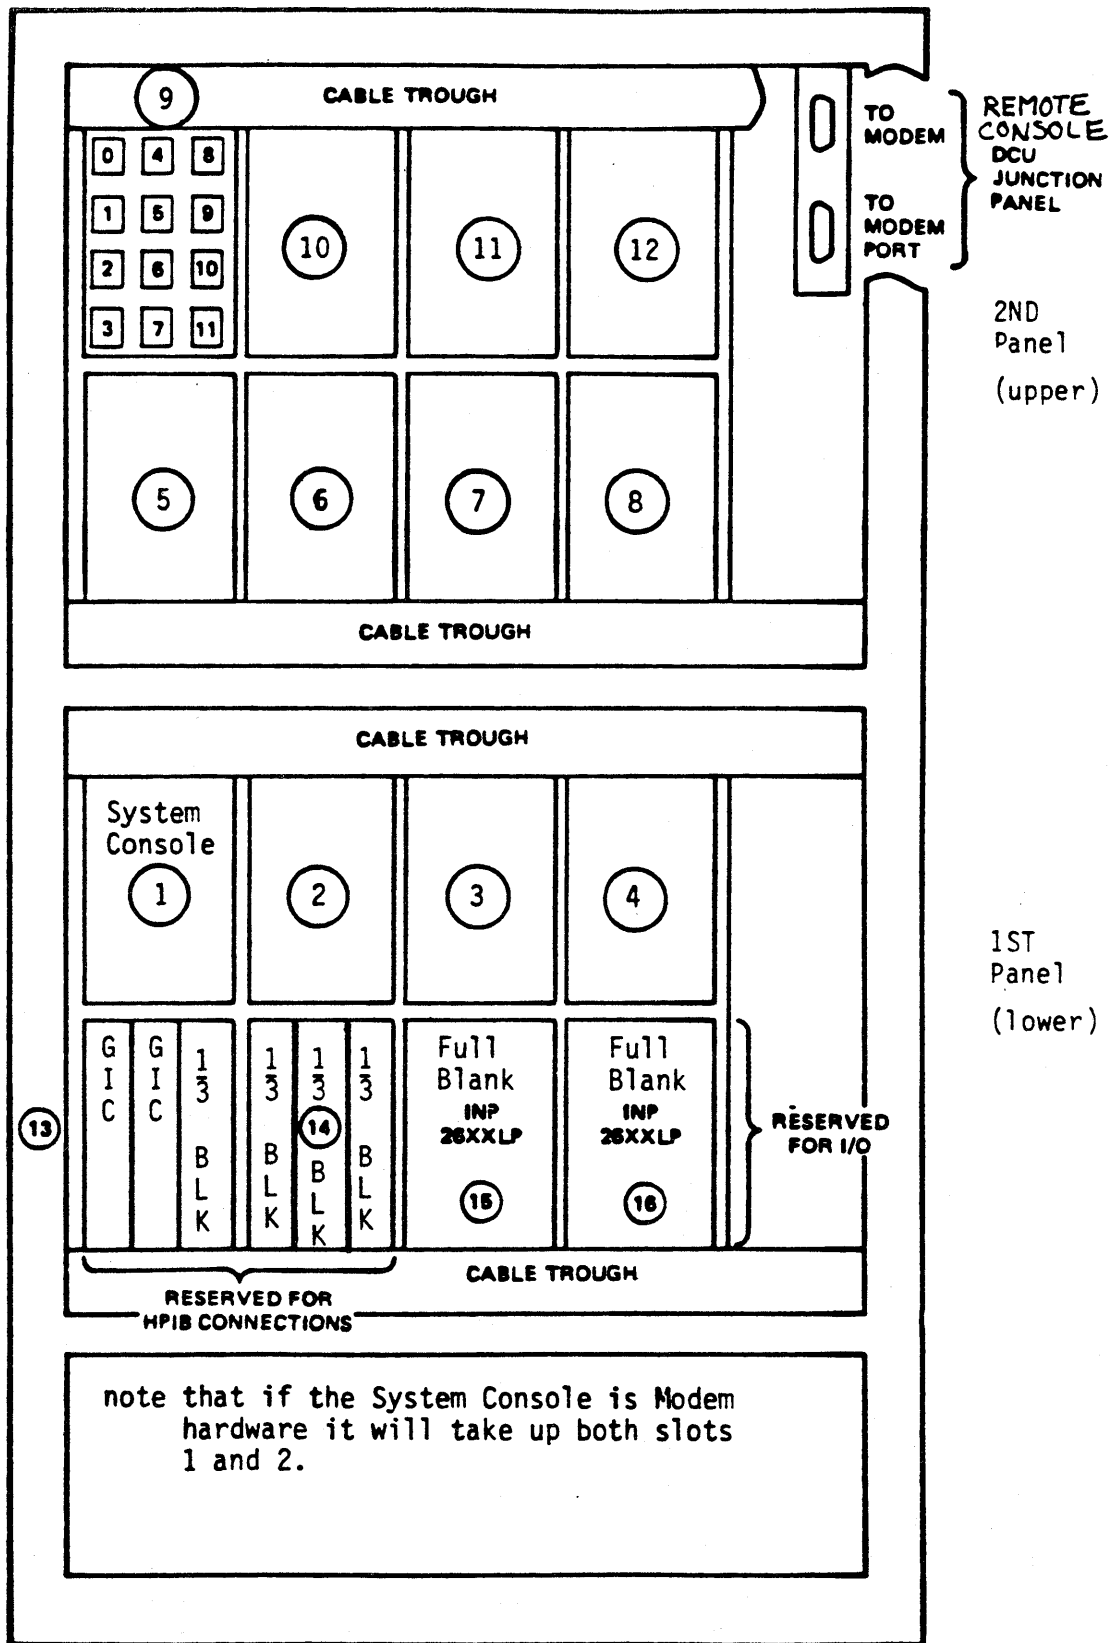
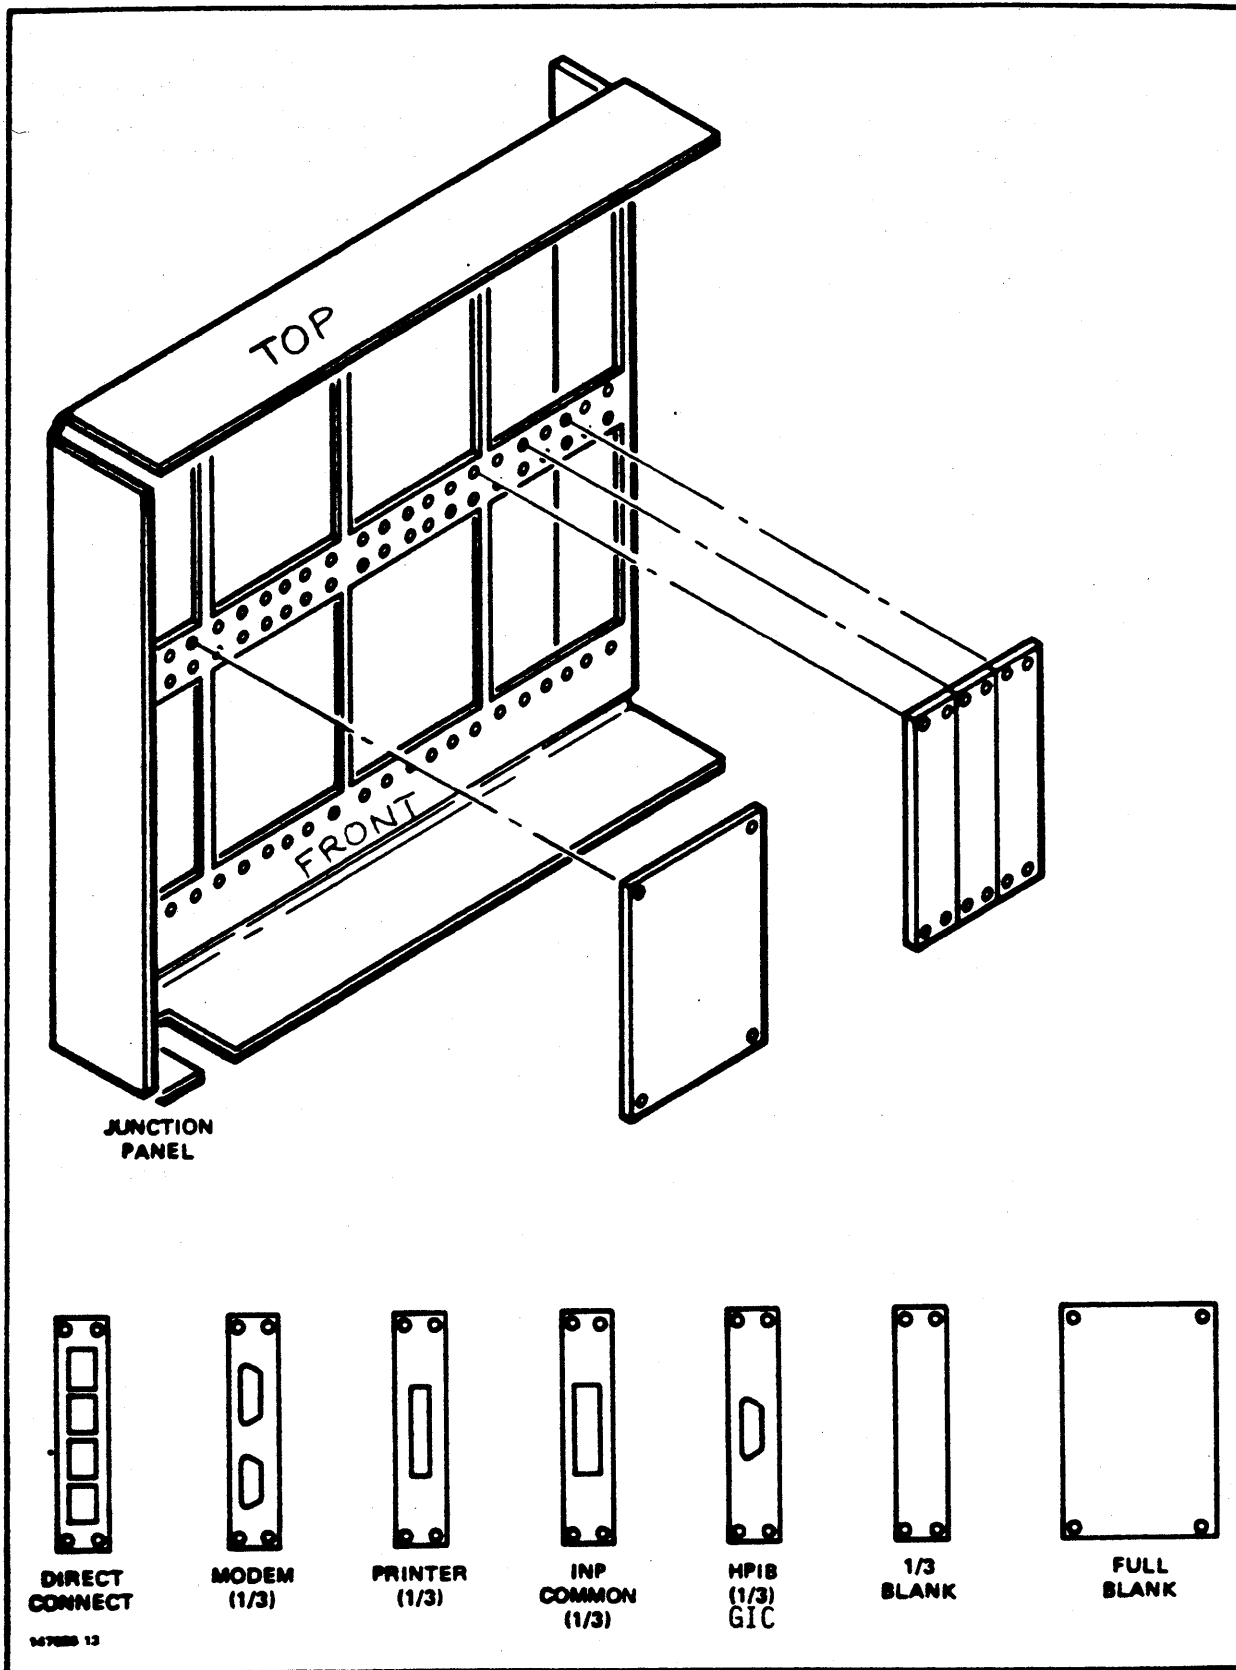

Figure 2-1 Series 64 I/O Card Cage Side Panel
Figure 2-2 Junction Panel and Mounting Plates
There are two I/O Side Panels to be installed; where, the first side panel is to be placed in the lower opening of the side of the I/O card cage and the second side panel is to be placed in the upper opening of the side of the I/O card cage (refer to Figure 2-1 for orientation). Figure 2-2 provides a view of an I/O side panel with correct orientation previous to inserting into the I/O card cage side openings. Keep these two figures in mind, perform the following procedure:
11. Attach the Cable Troughs (quantity 4, 2/panel) in the locations shown in Figure 2-1 with the screws (4/trough) P/N 2510-0301 and washers P/N 3050-0139 provided.